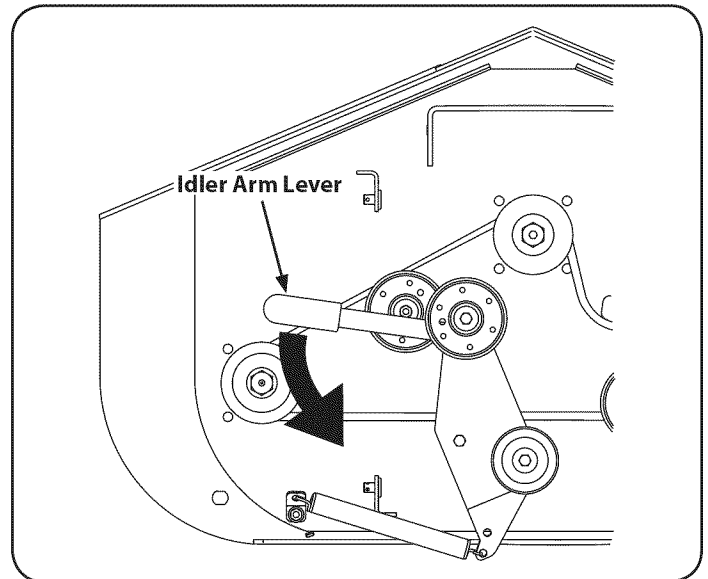

Figure 36
3. Reduce the tension on the PTO belt by moving the idler arm lever toward the back of the tractor, then remove the belt from the pulley. See Figure 36.